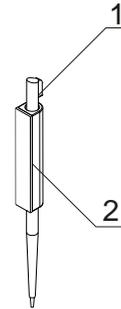

Fig.1
The purpose of the stylus (pos.1, fig.1) is comfortable and save with touch screen panel.